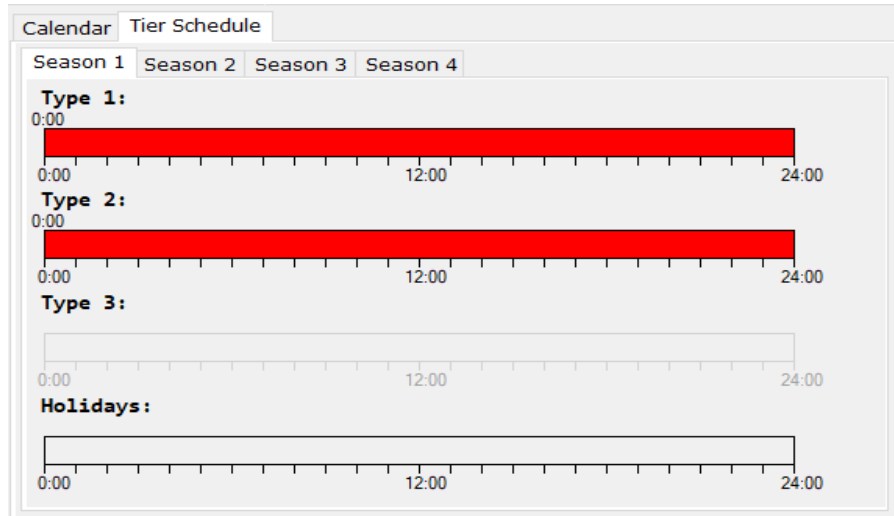

Figure 29
1. **Tier Schedule** tab: add two rows for **Type 1** and **Type 2** as shown in **Figure 29**.